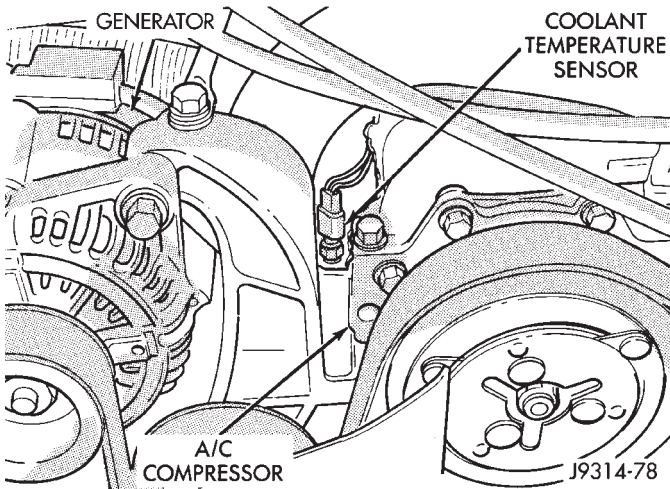

Fig. 87 Engine Coolant Temperature Sensor—5.2L/5.9L Engines
- (1) Partially drain cooling system. Refer to Group 7, Cooling.
- (2) Disconnect electrical connector from sensor (Fig. 87).